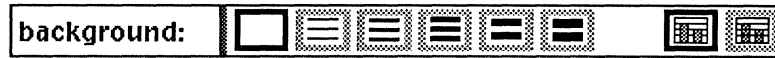

Figure 28-30. Background lines
**Background.** If the left-most box is *on*, there are no background lines. The next five icons represent the thickness of lines if they do appear. The two icons on the right (Figure 28-30) are used for determining whether the background lines will appear behind the data (the left icon) or in front of the data (the right icon).